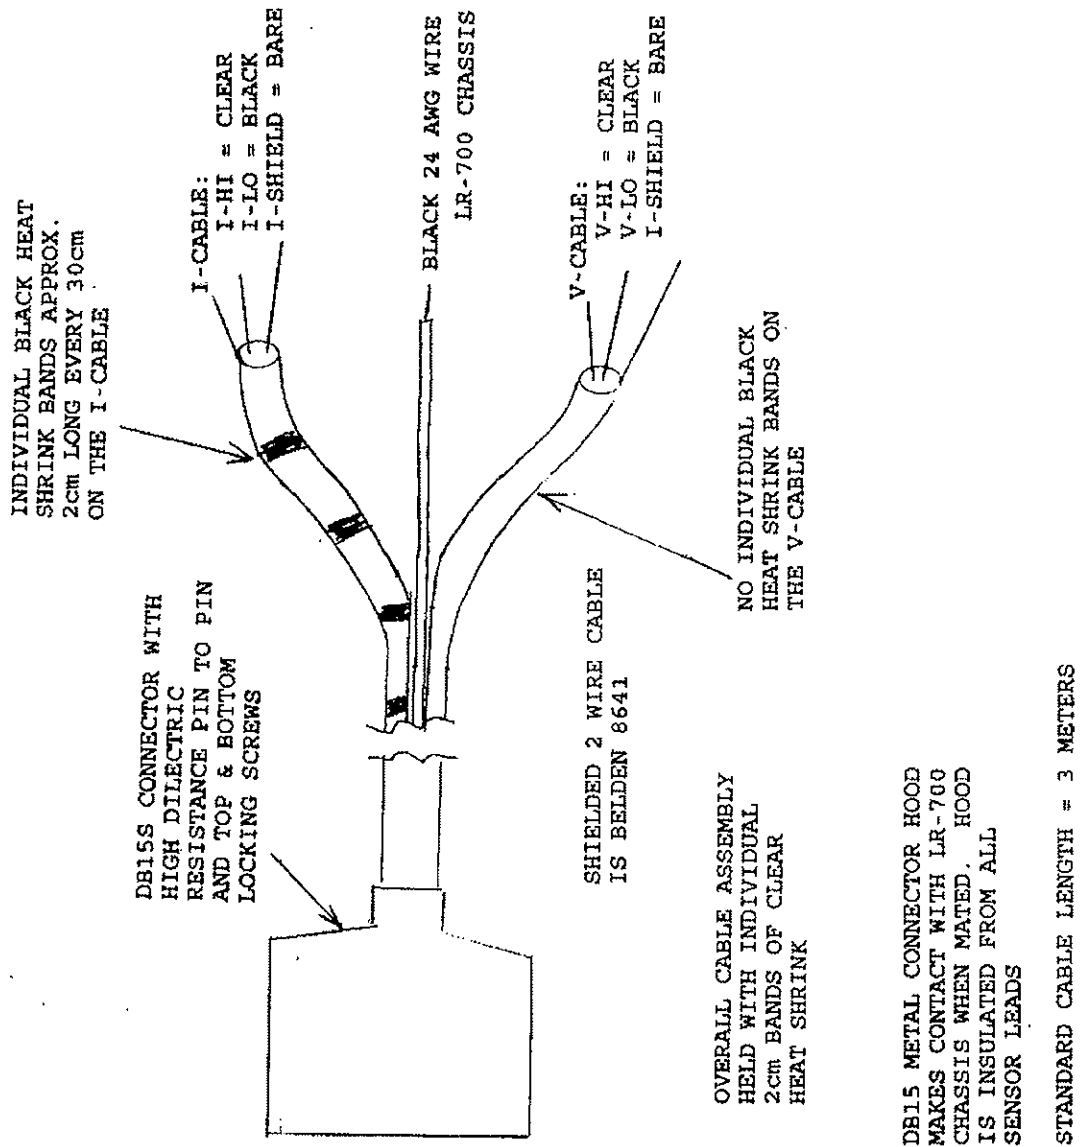

Figure 3.3
The standard sensor cable is supplied with the LR-750 unit. Figure 3.2 shows a schematic of this cable connected to a resistance sensor. Figure 3.3 is a physical assembly drawing of this cable allowing visual identification of each of the sensor leads without disassembling or electrically testing the cable. This cable connects both the I and V shields to ground. It is the simplest cable to hook up to the cryostat and one that is least prone to interference or cause oscillation.
2. SEE FIGURE 3.3 THE ASSEMBLY DRAWING OF THE STANDARD SENSOR CABLE FOR PHYSICAL IDENTIFICATION OF LEADS
2. PHYSICAL IDENTIFICATION OF I-CABLE, V-CABLE, AND CHASSIS LINE SUBSECTIONS ARE THE SAME AS SHOWN IN THE STANDARD SENSOR CABLE ASSEMBLY DRAWING - FIGURE 3.3